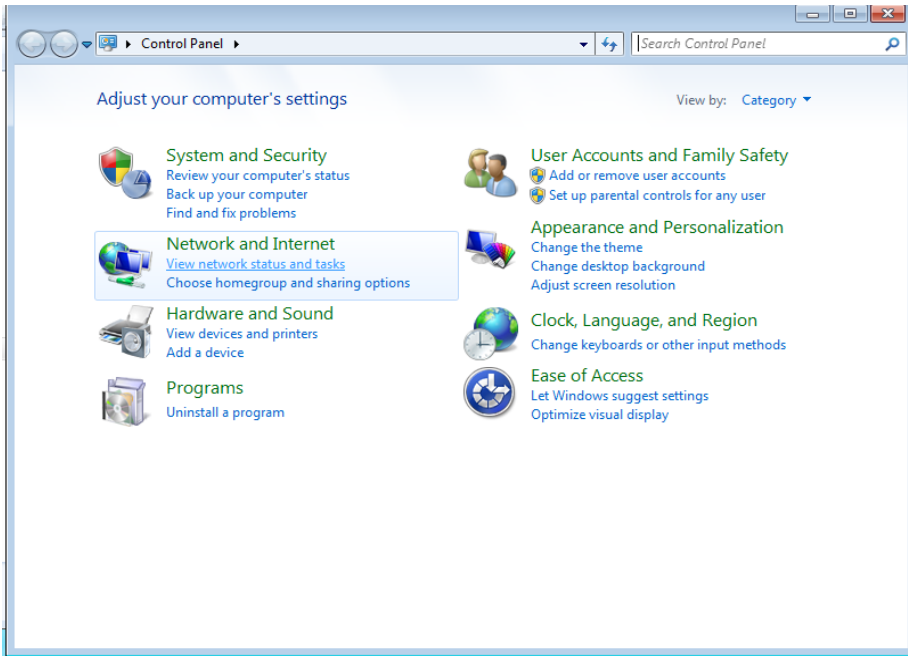

Fig.1.15 Control Panel
- (1) Click the “start” to pen control panel
- (2) Click “View network status and tasks” (see Fig.1.15)